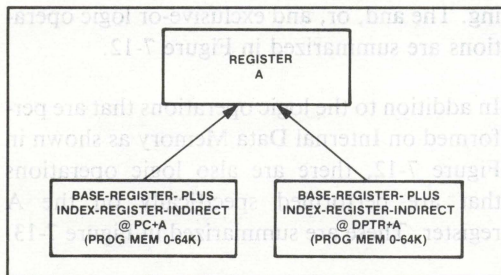

Figure 7-8. Program Memory Move Operations
Look-up-tables resident in Program Memory can be accessed by indirect moves. A byte constant can be transferred to the A register (i.e., accumulator) from the Program memory location whose address is the sum of a base register (the PC or DPTR) and the index register (A). This provides a convenient means for programming translation algorithms such as ASCII to seven segment conversions. The Program Memory move operations are shown diagrammatically in Figure 7-8.